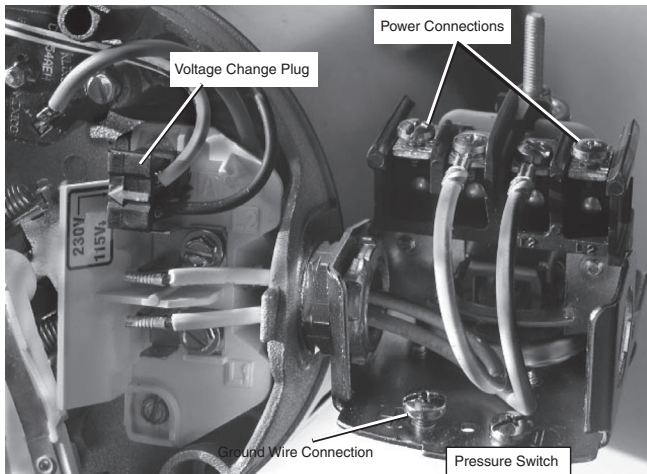

Figure 4: Voltage set to 230 volts, Plug Type
4. Attach the incoming power leads to the two outer screws on the pressure switch as shown in Figure 4.
5. Attach the ground wire to one of the grounding connections, shown in Figure 4.
1. Connect the ground wire first as shown in Figure 4. The ground wire must be a solid copper wire at least as large as the power supply wires.
4. Connect the power supply wires to the pressure switch as shown in Figure 4.